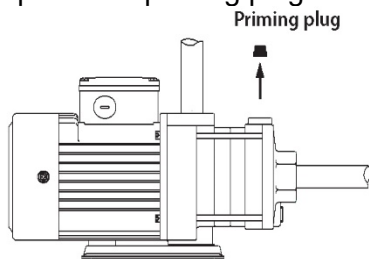

Figure 2
2. Remove the priming plug (**Figure 2**).